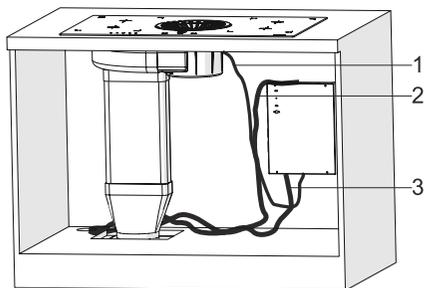

Fig. 27
11. ➤ Connect the appliance cables (Fig. 27).